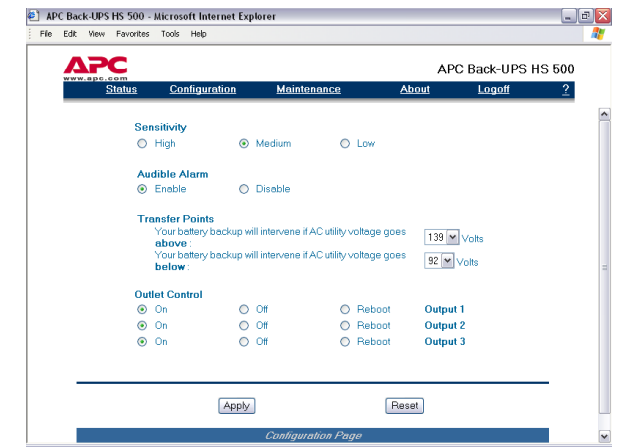

Figure 16. Configuration Page Screen
In situations where the Back-UPS or connected equipment appears too sensitive to input voltage, it may be necessary to adjust the transfer voltage. This is a simple task requiring use of the front panel Power switch, or it can also be accomplished using the **Configuration Page Screen** (Figure 16) in the supplied software (see *Install and Setup Software*). To adjust the transfer voltage, proceed as follows:
15. Using the **Configuration Page** Screen (Figure 16), you can adjust the **Sensitivity** of the Back-UPS. By adjusting the Sensitivity, the Back-UPS will allow the unit to switch to battery power depending on the quality of the AC utility power being supplied to the unit. Use of the Sensitivity settings are for the following conditions: